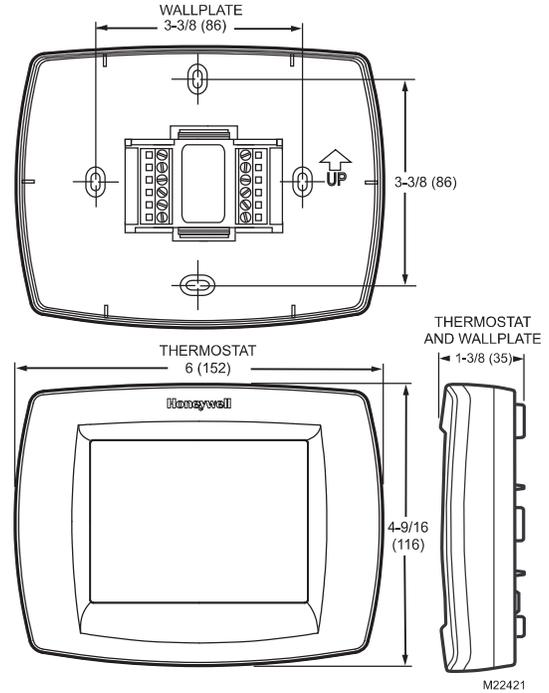

Fig. 1. TH8000 Touchscreen Thermostat dimensions in in. (mm).
- TH8000 Touchscreen Thermostat: see Fig. 1.